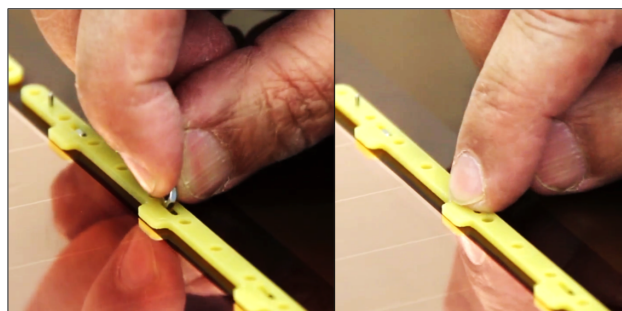

Figure 70: Placing the metallic nuts in the internal frame.
Step 21: At this point you can insert the M2.5 metallic nuts in the dedicated housing of the internal frames. Take the time to double check that all frames are equipped with the nuts and that the nuts are fully inserted in the stack (Fig. 70).